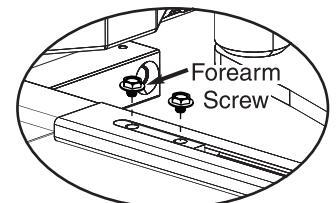

Figure 30
6. While holding arm in position, secure forearm to adjusting tube with forearm screw. (Figure 30)